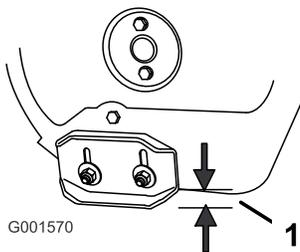

Figure 25
2. Loosen the nuts that secure both skids to the auger sides until the skids slide up and down easily (Figure 25).